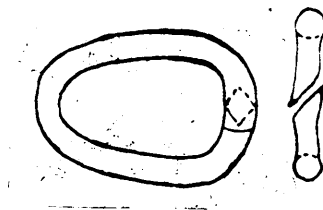

Figure 3.
6. The two ends of the "U" are brought together. (Figure 3). This is done on the horn of the anvil. Scarfed ends should overlap slightly, as shown in job on "Welding".